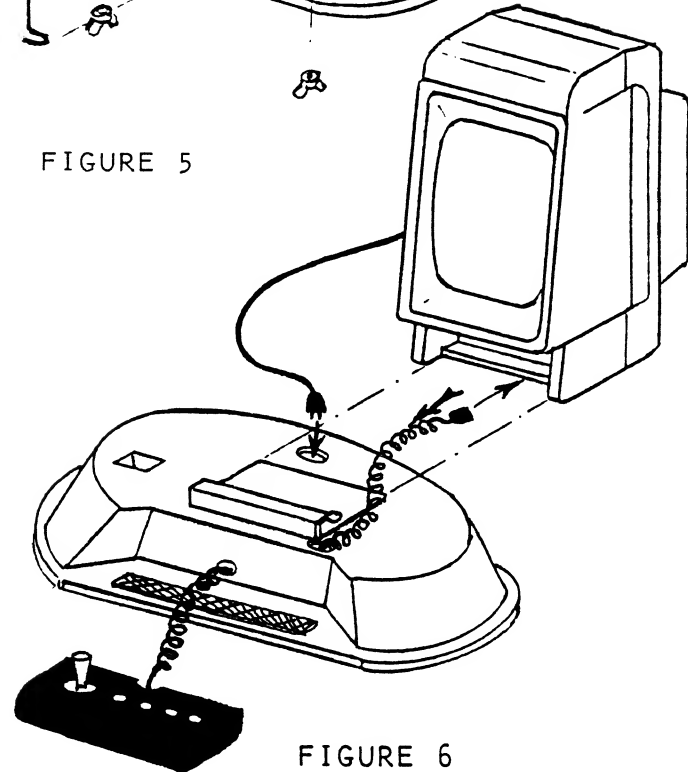

FIGURE 6
9. Feed the electric cord of the Vectrex through the hole in the top cover. Now slide the Vectrex Arcade unit into place on the top so that it slips under the sheetmetal security clip. (Figure 6)
12. Insert control panel coil-cord through the front hole, then up-and-out of the hole in the top cover, and plug into Vectrex unit in the outlet on the right. (Figure 6)